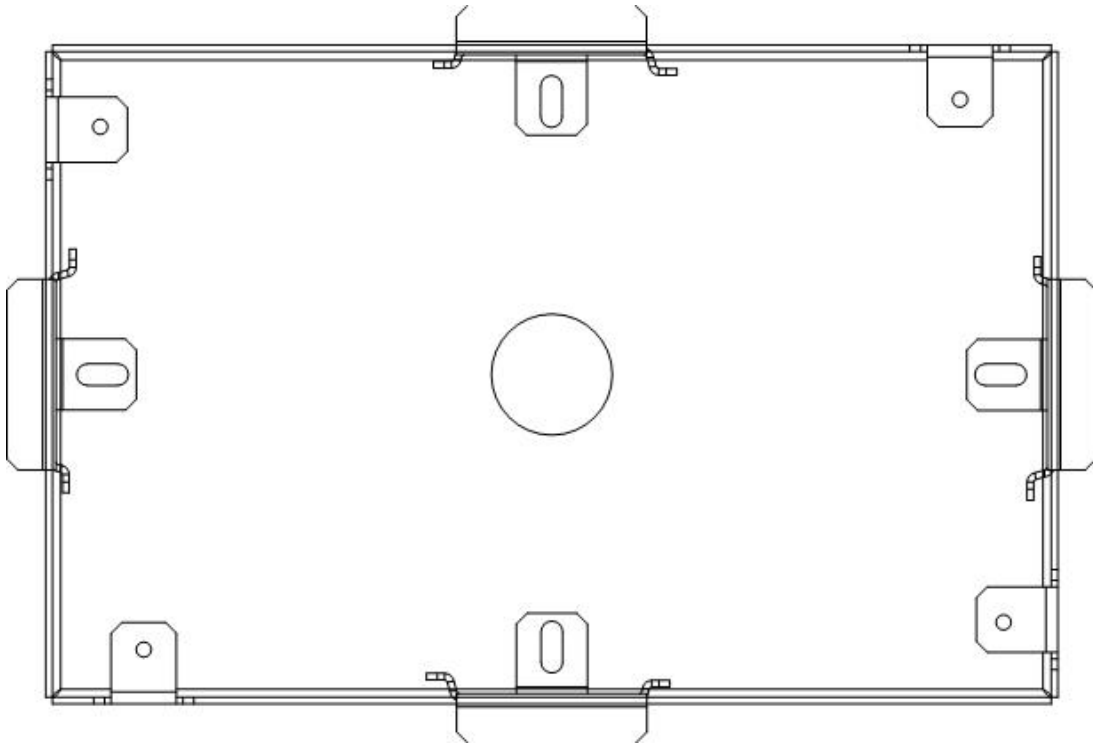

Figure 7: BAC-DIS-ENC with 4 Box Flanges Attached
3. From the inside of the BAC-DIS-ENC, bend Tab B to the side with a pair of pliers to secure the Box Flange to the BAC-DIS-ENC. Repeat the above steps to attach the three remaining Box Flanges to the BAC-DIS-ENC as shown in **Figure 7**.